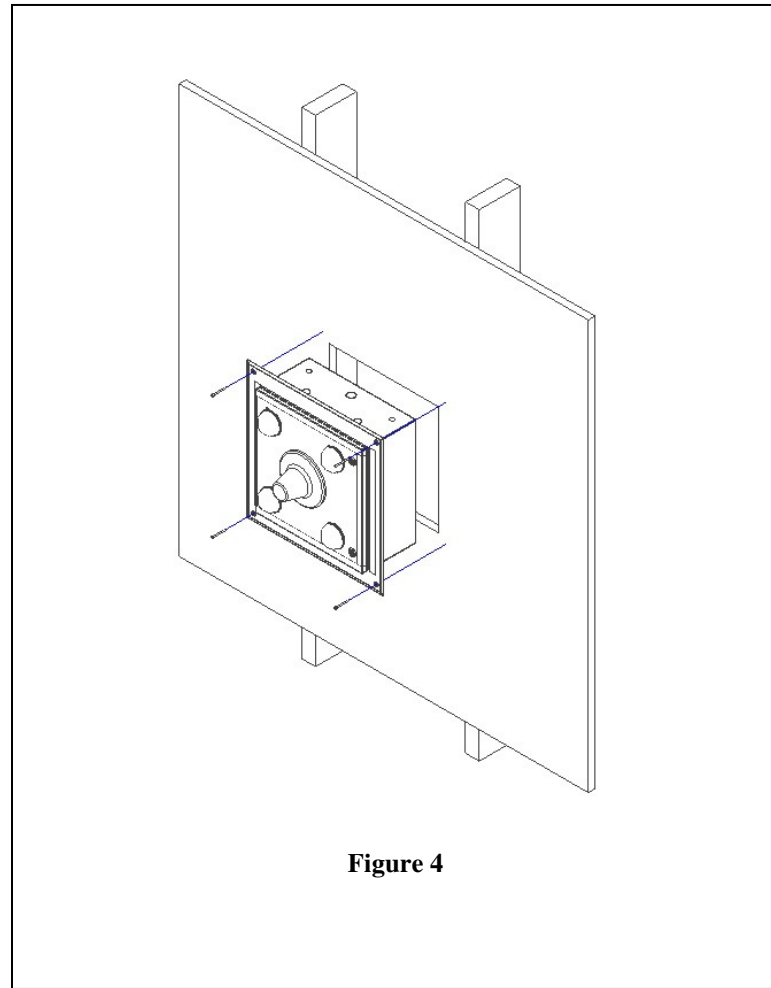

Figure 4
Step 7 – If stud spacing permits, position the enclosure so that the mounting holes are centrally located with the studs. For metal studs, use #10 sheet metal screws (or, for wood studs, use #10 wood screws). The screws should be a minimum of 2" in length. Make sure that the screw is inserted directly into the stud. Securely tighten the screws after inserting them through the screw snap cap washer, and be sure that the screw is inserted directly into the joist. Press the provided screw snap caps onto the screw head. Alternatively, if no studs are available for mounting, drywall anchors or cinderblock anchors may be used. Be sure to use appropriate hardware for the wall construction type. (Reference Figure 4)